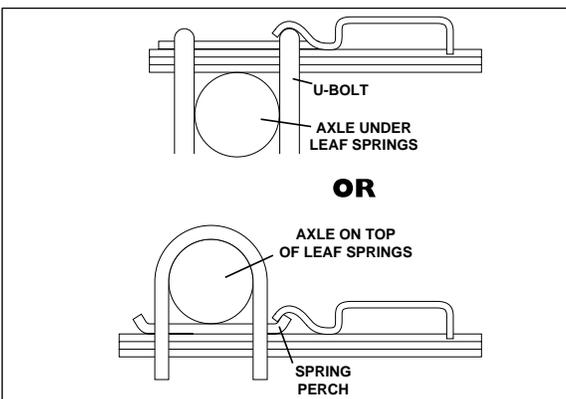

Figure 5
3. Set the assembly on the leaf spring in front or behind depending on what would interfere with function of kit. It is permissible to stagger kit also, in case shocks or brake lines that interfere with kit. The lower bracket has a "finger" that is designed to "hook" around something like a U-bolt, spring retainer, or spring perch (Figure 5). This keeps the lower bracket from "walking" up the spring which would cause damage to the air springs. If the vehicle does not have something for the "finger" to "hook" to, install the L-bracket supplied in this kit for that function. Refer to SB-171 for instructions on how to install the L-bracket. With lower bracket in place install U-bolt, clamp bar, flat washer and locknut. Torque to 16 ft-lbs (Figure 1).